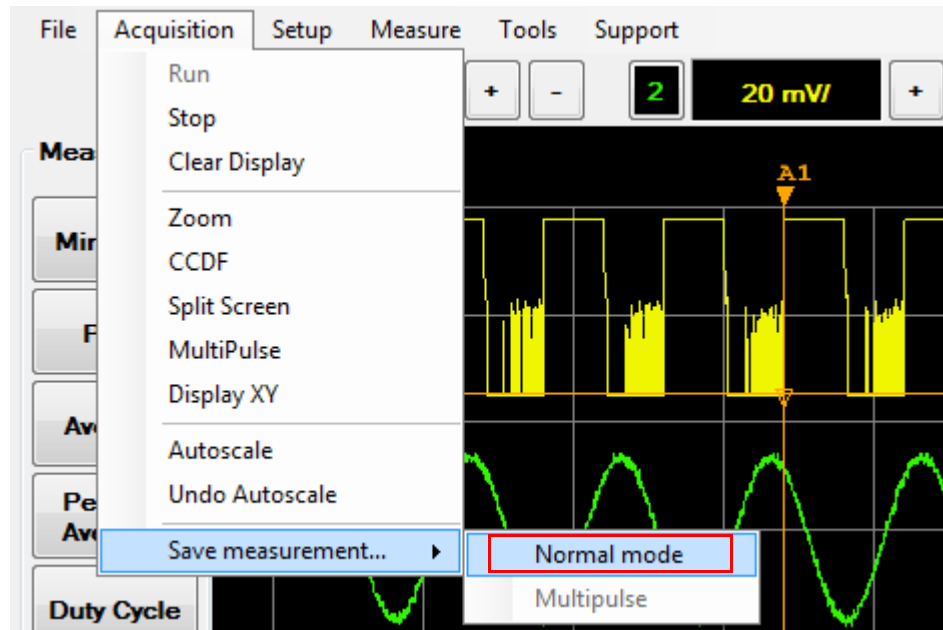

Figure 2-148 Save measurement > Normal mode selection in the Acquisition menu
- 1 Select **Acquisition > Save measurement... > Normal mode** on the toolbar as shown in Figure 2-148.